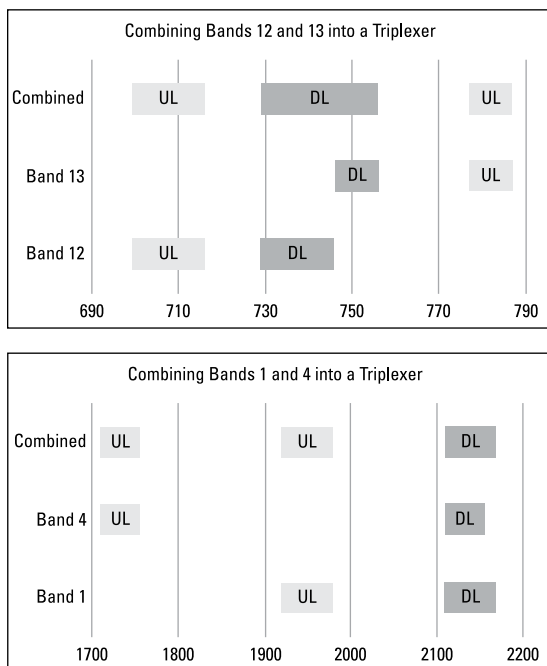

Figure 2-3: Examples of combining two duplexers into a triplexer.
A common application of a triplexer in FDD systems is to save board space by combining what would normally be done with two duplexers into a triplexer. Examples are shown in Figure 2-3. On the top, Bands 12 and 13 are combined into a single triplexer because their receive or downlink (DL) bands are adjacent to each other. A single wider filter to combine both of these is created and the three filter structure results. On the bottom, Bands 1 and 4 are combined into a single triplexer because the DL for Band 4 is a subset of the DL for Band 1.